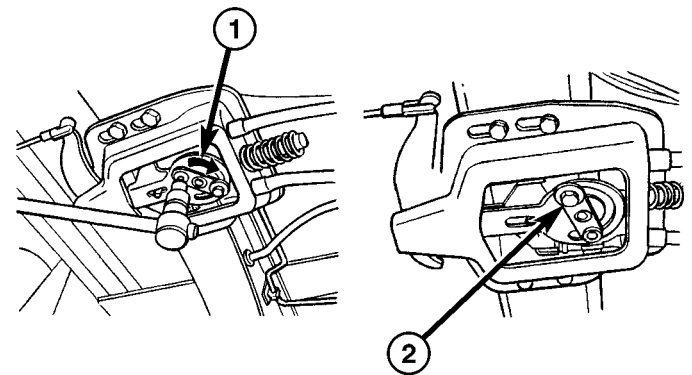

Fig. 34 PARK BRAKE ADJUSTMENT
(7) Clamp the eccentric clockwise until the wheels/disc brake rotors can still be turned with the force of the hand (Fig. 34).
(8) Tighten the clamp bolt (Fig. 34).